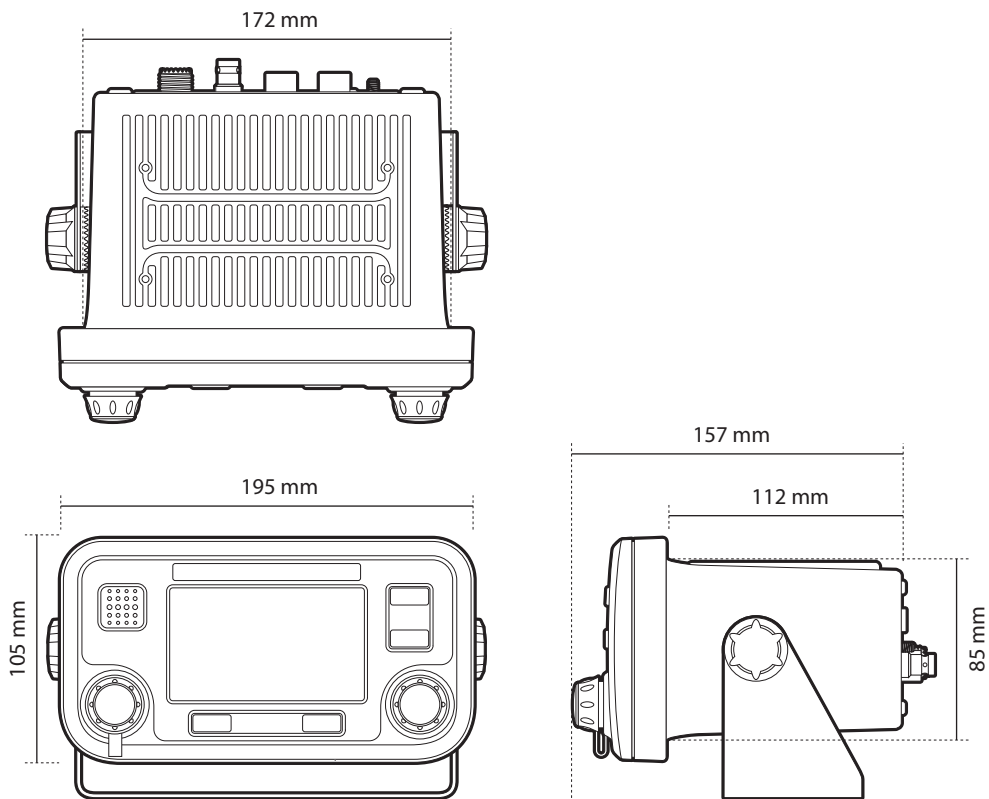

Figure 33 AIS transceiver dimensions
- There should be adequate space around the AIS transceiver for routing of cables. See Figure 33 for details of the AIS transceiver dimensions.